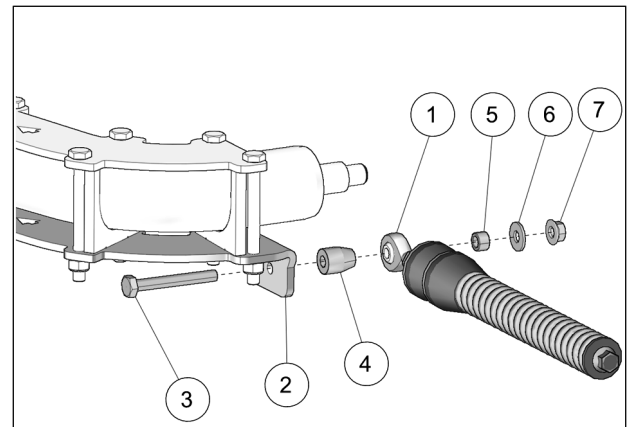

Fig. 7
- Attach stabilizing rod (1) to anchor bracket (2), using bolt (3), long spacer bushing (4), short spacer bushing (5), flat washer (6) and nut (7). Torque to 70 N•m [52 lb•ft]. See Fig. 7